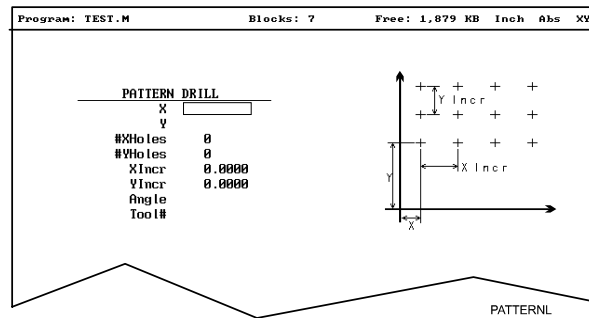

Figure 5-6, Pattern Drill Graphic Menu
2. Select **Pattern** from the **Drill** pop-up menu, and press **ENTER** to display the **PATTERN DRILL** Graphic Menu. Refer to **Figure 5-6**.